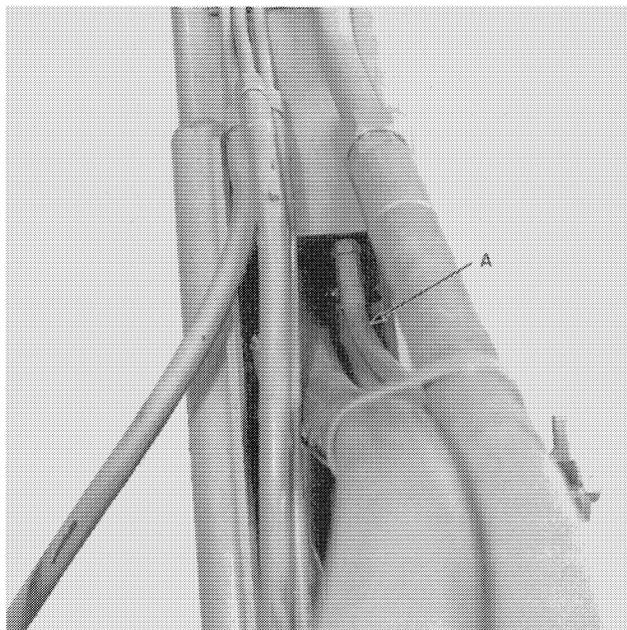

FIGURE 3
6. If a flow meter is not available to check case drain oil volume at pump, oil can be collected in a measurable container. Disconnect case drain return line, A, Figure 3, and install a  $\frac{3}{8}$ " pipe plug in tongue.